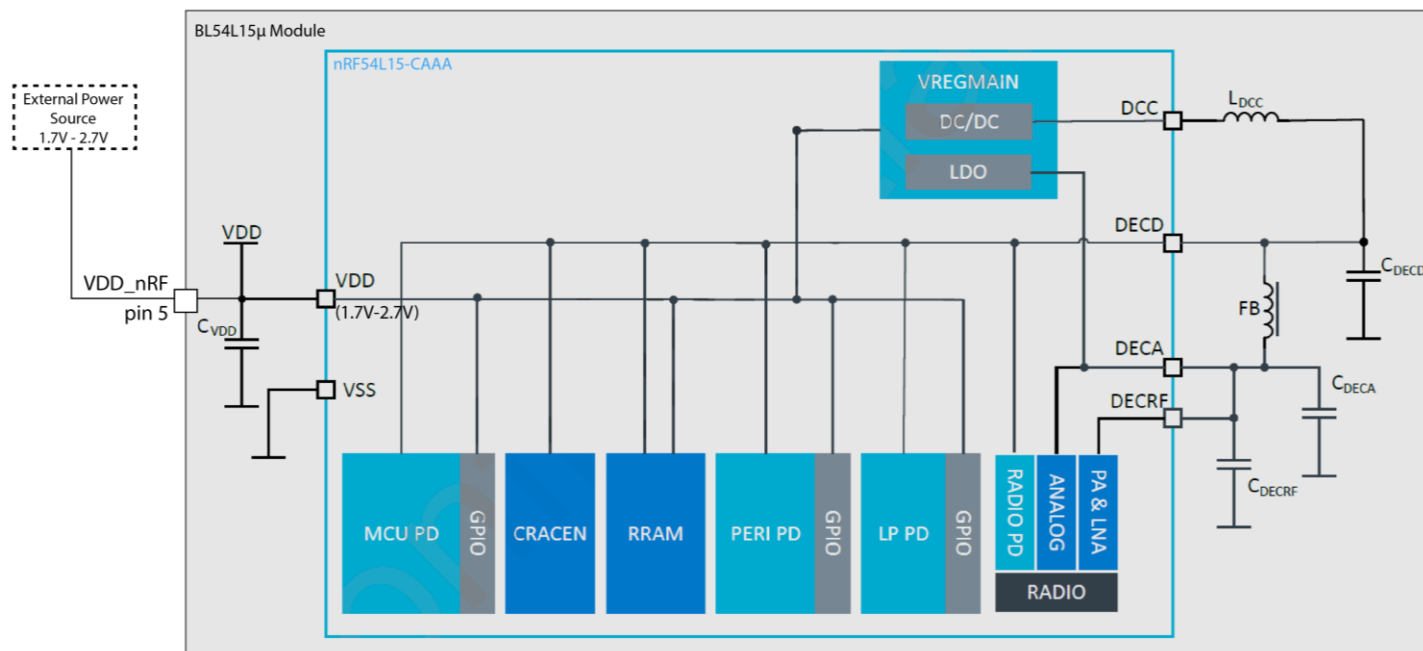

Figure 5: BL54L15 μ power supply block diagram (adapted from Nordic) for Normal Voltage Mode
There are four possibilities (see figure 5) for the low frequency clock (LFCLK) and options are:
The BL54L15μ module power supply internally contains the following main supply regulator stage (Figure 5):
- Normal voltage mode** power supply mode is entered when the external supply voltage (1.7V-3.6V) is connected to VDD_nRF pin. See Figure 5.